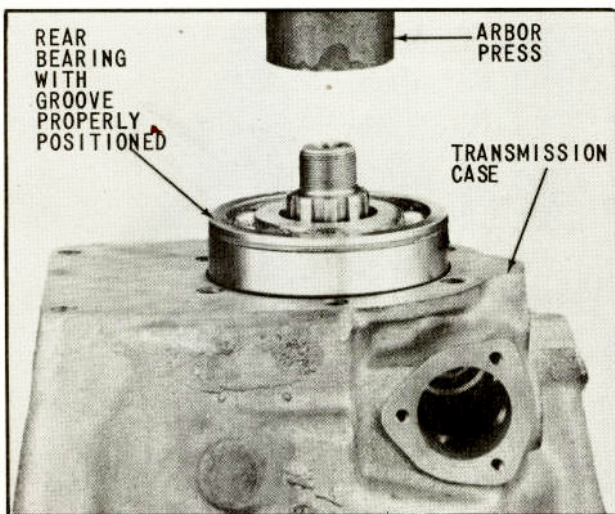

Fig. 23 Bearing Properly Positioned on Transmission Case
11. With the groove on the outside diameter of the bearing located toward the rear of the transmission, as shown in (Fig. 23), place the bearing over the projecting output shaft and squarely in the bearing bore.